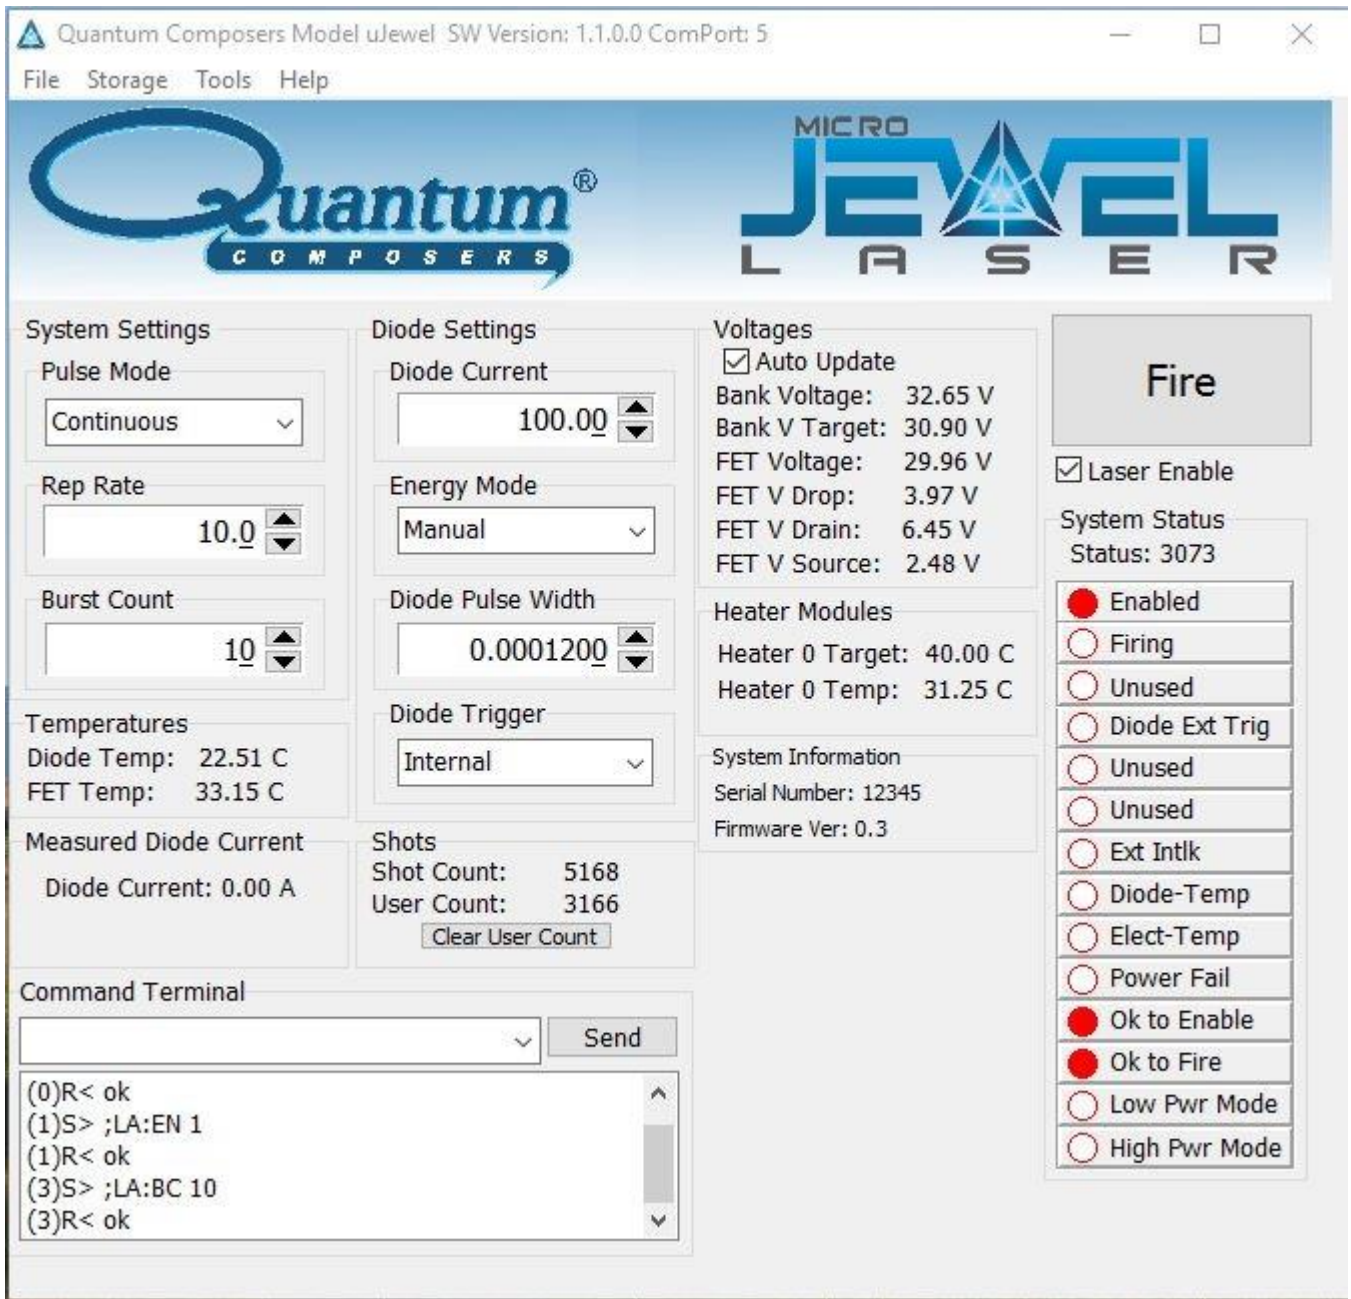

Figure 13: MicroJewel Software Application Main Window
- The MicroJewel Laser application will be displayed as shown in Figure 13.